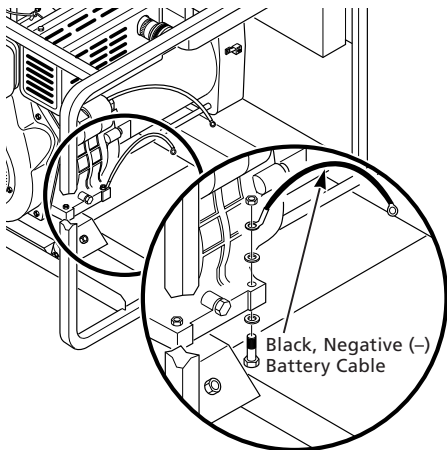

Figure 11 – Connecting Black, Negative (-) Battery Cable to Engine Block
2. Attach the black, negative (-) battery cable to the engine block. Use the bolt, nut, and two washers provided with the battery cables. Attach cable as shown in Figure 11, page 8.